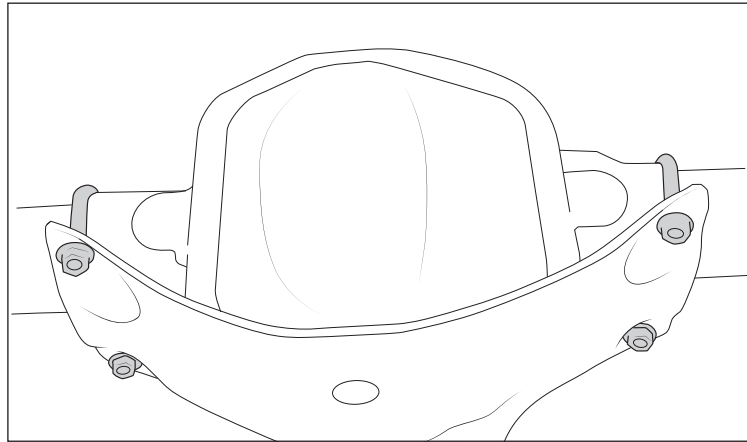

Figure 1
1. Place the U-Bolts over the rear differential and through the differential slider. Loosely install the M10 nuts (fig. 1).